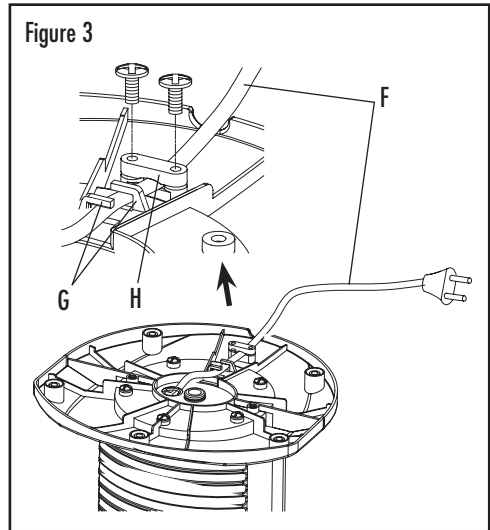

Figure 3
5. Run the Power Cord through the cord minders and cord channel located underneath the base. Refer to Figure 3.